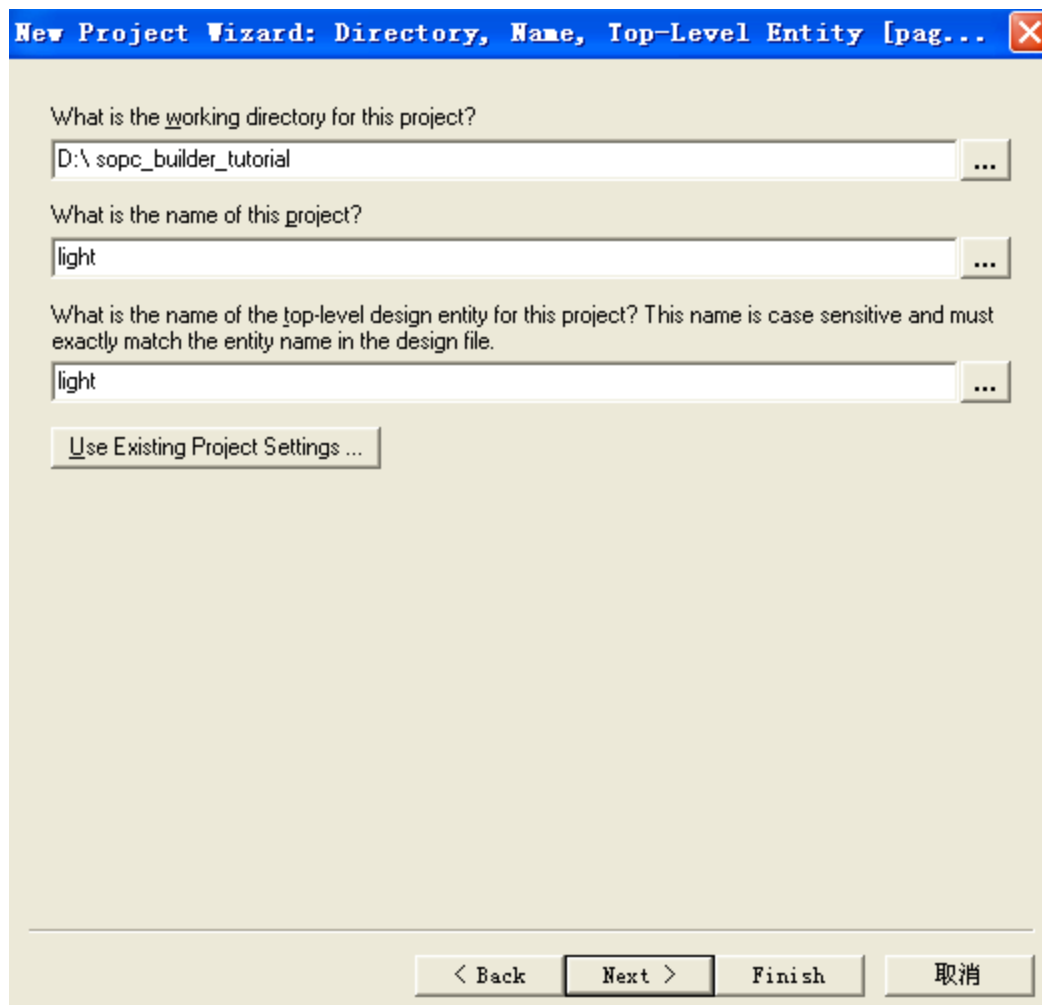

Figure 3. Create a new project.
1. Create a new Quartus II project for your system. As shown in Figure 3, we stored our project in a directory called D:\sopc_builder_tutorial, and we assigned the name lights to both the project and its top-level design entity. You can choose a different directory or project name, but be aware that the SOPC Builder software does not permit the use of spaces in file names. For example, an attempt to use a directory name socp builder tutorial would lead to an error. In your project, choose the EP4CE115F29C7 chip as the target device, because this is the FPGA on the DE2-115 board.
This entity is named `lights`, because this is the name we specified in Figure 3 for the top-level design entity in our Quartus II project. Note that the input and output ports of the entity use the pin names for the 50-MHz clock, `OSC_50`, pushbutton switches, `KEY`, toggle switches, `SW`, and green LEDs, `LEDG`, that are specified in the DE2-115 User Manual. Type this code into a file called `lights.vhd`. Add this file and all the *.vhd files produced by the SOPC Builder to your Quartus II project. Also, add the necessary pin assignments on the DE2-115 board to your project.